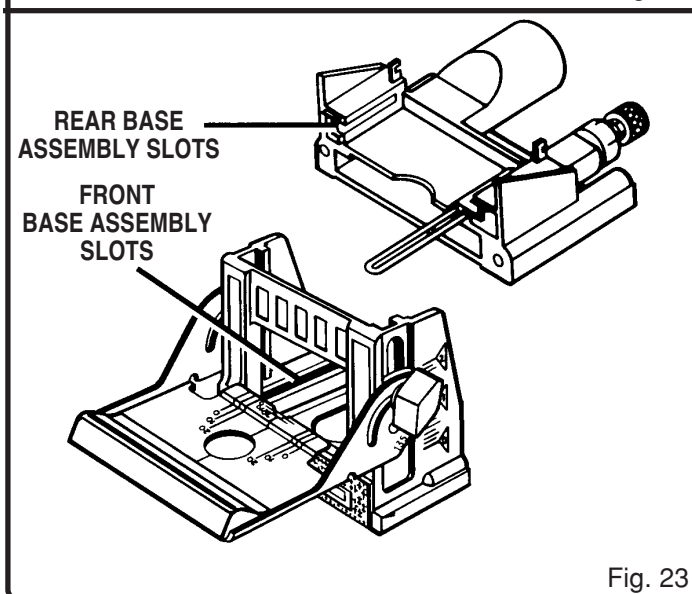

Fig. 23
- Clean wood particles and resin from slots and surrounding areas on front and rear base assemblies. See Figure 23. Apply a thin coat of general purpose grease in slots or on bearing plate where base slides.